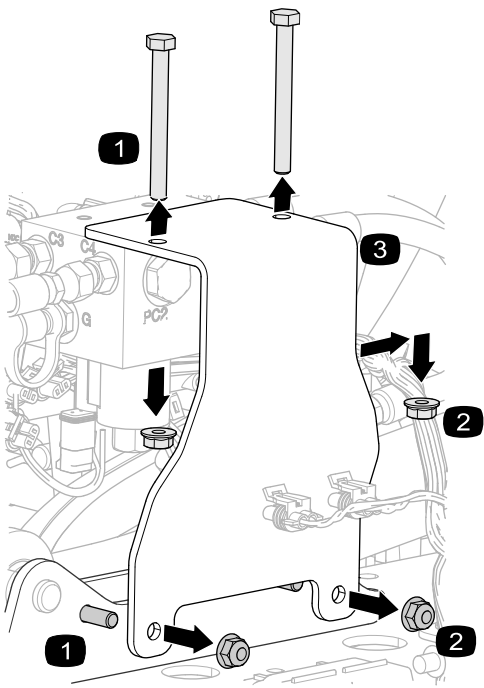

Figure 11
- 1. Remove the nuts and bolts that secure the mounting bracket to the lift-cylinder manifold and the mount plate (Figure 11). Retain and set aside the nuts and bolts.